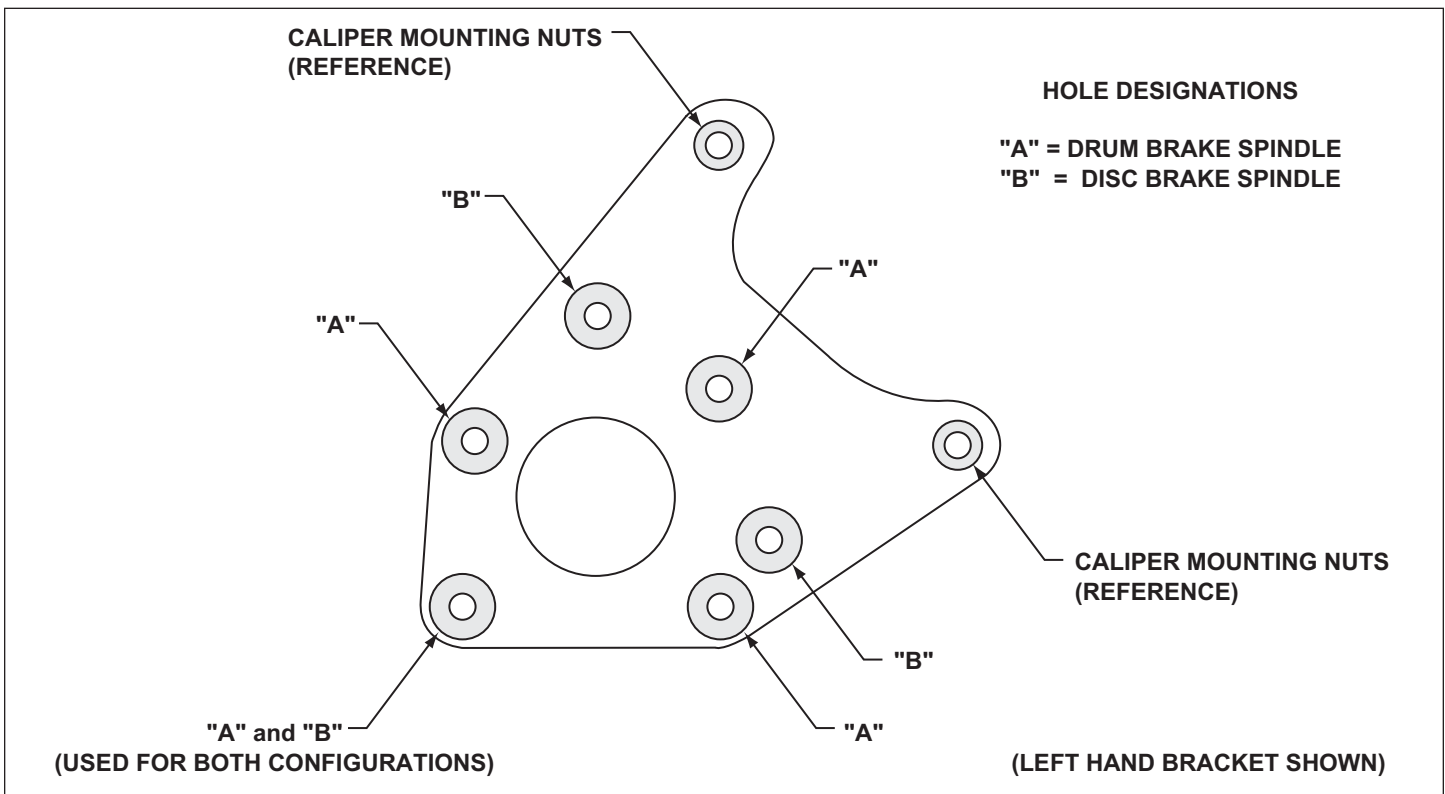
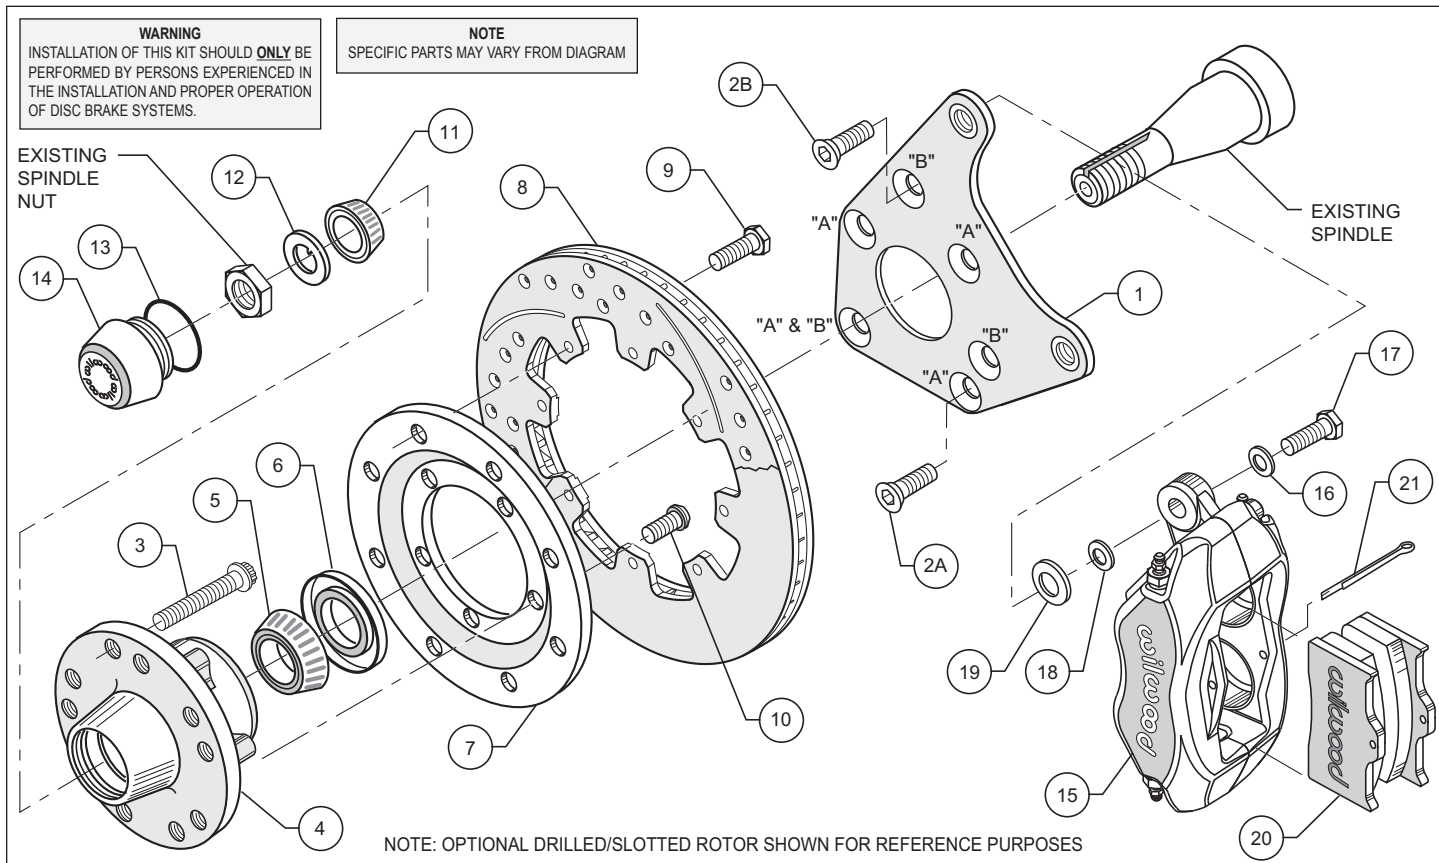
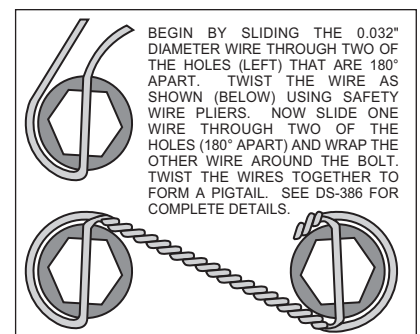

Figure 1. Wilwood Caliper Mounting Bracket
Figure 2. Typical Installation Configuration
Figure 4. Safety Wire Diagram
This kit has been designed for use with both the disc brake or the drum brake configuration of vehicle. The only difference is in how the Wilwood caliper mounting bracket is installed. The same bracket is used for both configurations; the disc brake version utilizes three mounting holes while the drum brake application uses four mounting holes (see Figure 1). For your convenience we have supplied bolt kits for both applications (see parts list and Figure 2 as necessary, item(s) 2A and 2B). Use the bolt kit that is applicable to your vehicle and disregard the other one.
These modifications should be performed by a qualified machinist and completed before assembly of the Wilwood disc brake kit begins. Using the caliper mounting bracket as a template (refer to figure 1 as necessary), locate and verify the three original stock holes on the steering arm that need to be modified. Drill a .332 diameter hole through all three holes, then tap 3/8-24 UNF (fine thread). Countersink the holes to .438 x 90°.
- As mentioned before, this kit uses the same mounting bracket (1) for both the drum and disc brake spindle. The drum version utilizes four mounting bolts (designated with a "A"), while the disc only requires three (designated with a "B"). Refer to figure 1 and figure 2 as required for the basic installation position of the bracket and the "A" and "B" reference designations (these designations are not physically marked on the bracket, they are referenced on the drawings for your convenience) and align using the three or four holes (as applicable) to the face plate of the steering arm. Install bolts (2A or 2B) through caliper mounting bracket (1) into steering arm, finger tighten only. After you are positive of the bracket (1) alignment, remove the mounting bolts (2A or 2B) one at a time and Apply red *Loctite*® 271 to bolt threads (2A or 2B), then reinstall. Torque bolts (2A or 2B) to 30 ft-lb. **NOTE:** Be sure the heads of the bracket (1) insert nuts are facing outward toward the wheel.
- Install wheel studs (3) into the hub (4). Torque to 77 ft-lb. **NOTE:** There are two (2) five lug patterns in the hub (5 x 4.50 and 5 x 4.75). Make sure of the correct hole pattern for the correct wheel application before installing studs into hub.
- Pack the large inner bearing cone (5) with high temperature disc brake bearing grease (available from your local auto parts store) and install into the backside of the hub (4).
- Install the grease seal (6) by pressing into the backside of the hub (4).
- Attach rotor adapter plate (7) to rotor (8) using bolts (9). Torque bolts (9) to 180 in-lb. Safety wire bolts (9) using standard 0.032 inch diameter stainless steel safety wire as shown in Figure 4. Please refer to Wilwood's data sheet DS-386 (available at www.wilwood.com/Pdf/DataSheets/ds386.pdf) for complete safety wire installation instructions. **NOTE:** Dished side of adapter plate (7) should face hub (4). The machined tab side of the iron rotor (8) should face the adapter plate (7).
- Mount the adapter/rotor assembly (7/8) to the hub (4) using bolts (10) (finger tight), as shown in Figure 1. Using an alternating sequence, remove bolts one at a time, apply red *Loctite*® 271 to the threads, and torque to 55 ft-lb.
- Pack the small outer bearing cone (11) with high temperature disc brake bearing grease and install into front of hub (4). Slide the hub/rotor assembly (4 and 8) with outer bearing cone (11) onto the spindle. Secure using spindle washer (12), stock adjusting nut and nut locking device. Adjust bearings per Original Equipment Manufacturer (OEM) specifications.
- Install the o-ring (13) and then the dust cap (14) onto the hub (4). Friction created by the o-ring (13) on the dust cap (14) keeps it from unscrewing.